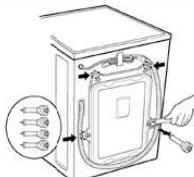

Figure 3
3. Slightly twist the rubber on the bolts and then remove the bolts, and store the bolts and the spanner (see figure 3).